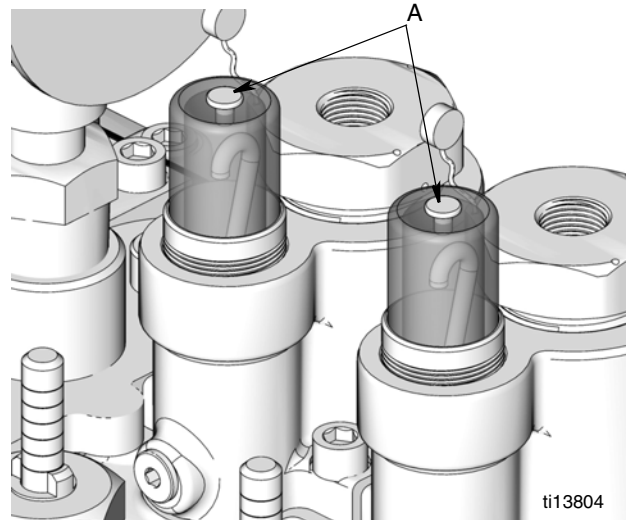

FIG. 2
1. Remove vent plugs (A) located on the top of the pump sight glasses to allow lubricant to rise in the drip tube to the level of the oil in the reservoir and reduce the priming required at start up (FIG. 2).